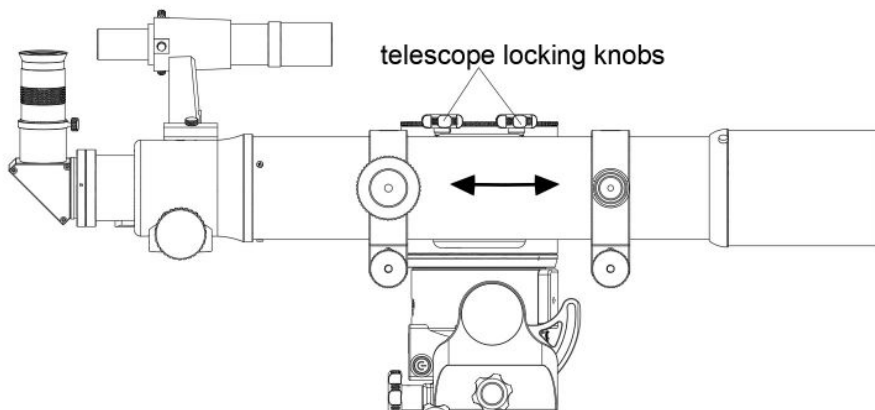

Fig. 12
* For non-tube ring mounting, keep holding the telescope, slightly loose the two telescope locking knobs and slide the dovetail bar in the groove to obtain balance and then firmly tighten the two telescope locking knobs. (Fig.12)